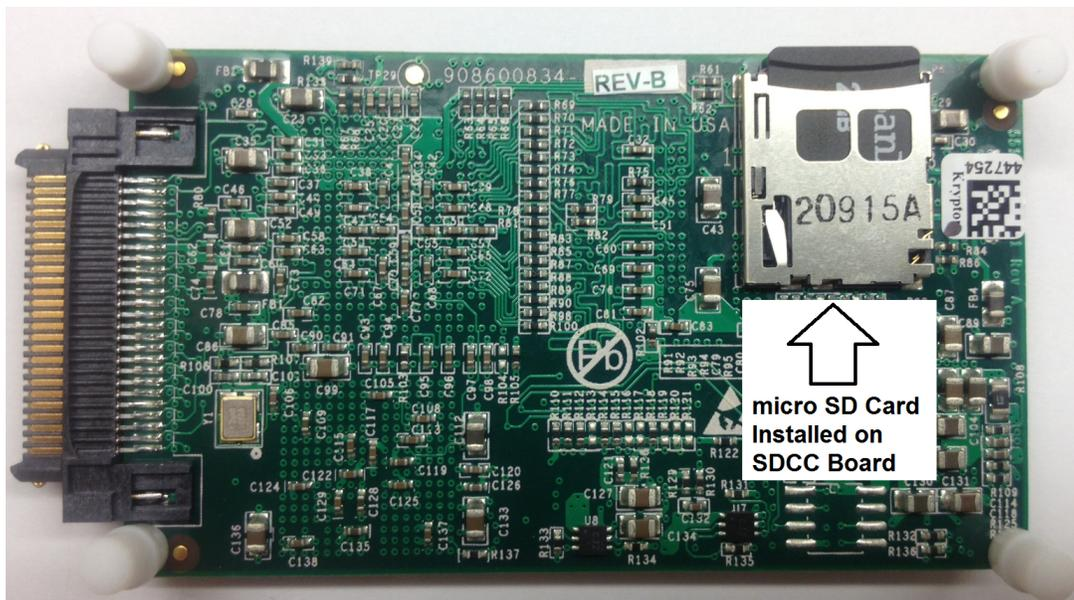
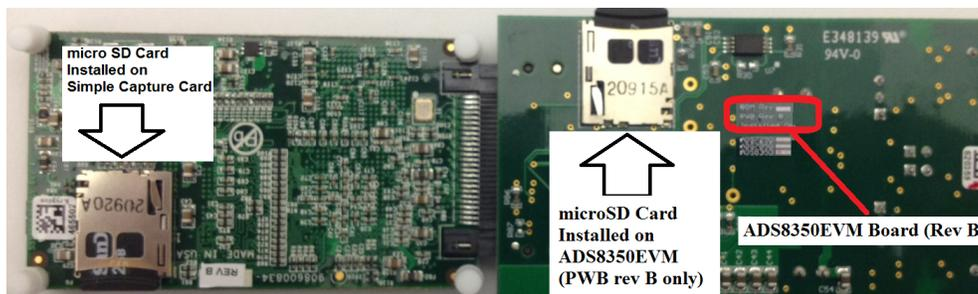

Figure 6. Bottom View of Simple Capture Card Board with microSD Memory Card Installed
Figure 7. Bottom View of ADS8350EVM Rev B with microSD Card Installed
Figure 6 illustrates the bottom view of the simple capture card controller board with the microSD card installed.
This ADS8350EVM PWB version includes two (2) microSD cards. Ensure both microSD memory cards are installed in the microSD sockets on the back of the simple capture card board and on the back of the ADS8350EVM, as shown in Figure 6 and Figure 7 respectively.
- Step 1. Verify the microSD card is installed on the back of the simple capture card board; see Figure 6.